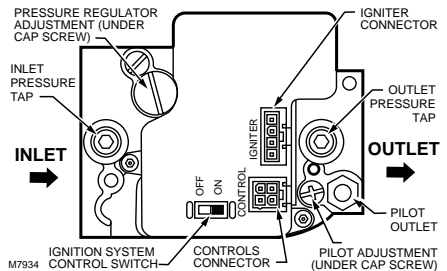

Fig. 4. Mount so gas flows in the direction of the arrows.
1. Mount the control so the gas flow is in the direction of the arrow on the bottom of the ignition system control, as shown in Fig. 4.